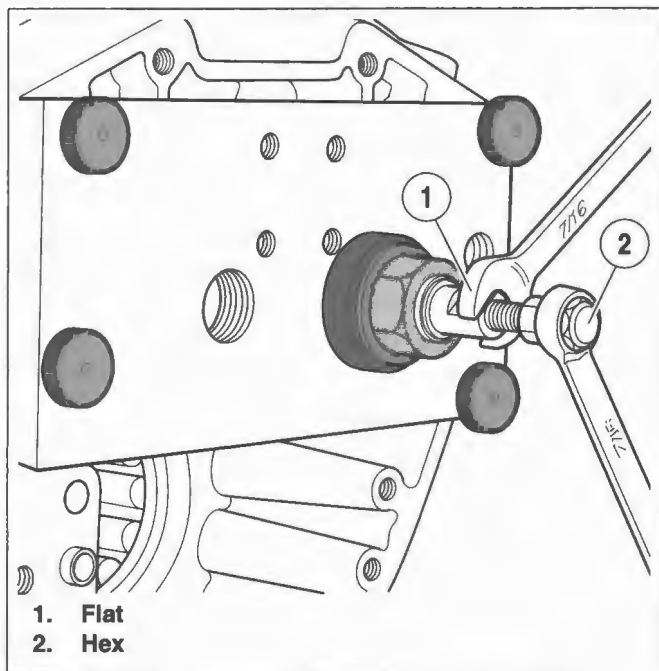

Figure 3-132. Expanding Collet By Turning Hex Clockwise
10. See Figure 3-132. Using a 7/16 in. open end wrench, hold flat on collet to prevent rotation. Using a second 7/16 in. open end wrench, expand collet by turning hex at end of shaft in a clockwise direction. Expandable end of collet makes contact with needle bearing ID.